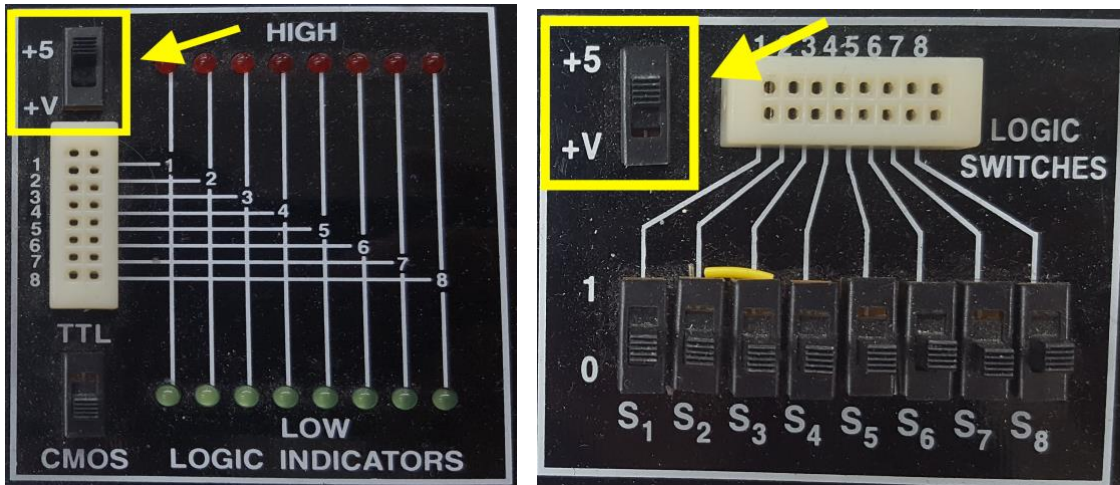

Figure 3: Logic Indicators and Switches.
- *Global Specialties Breadboard*: Use the ohmmeter mode of the multimeter to confirm that horizontal rows of five holes are connected. Vertical columns of five holes are connected and intended for power and ground, but note that the top and bottom half of each column is not connected on this breadboard, making it easy to accidentally not power your circuits. Refer to this video for a demonstration. You can apply inputs using the logic switches and check outputs using the logic indicators shown in Figure 3. Be sure to configure the switches and indicators for 5 volt CMOS levels by making sure the voltage switches are both in the +5 volt position (not variable voltage) and the logic